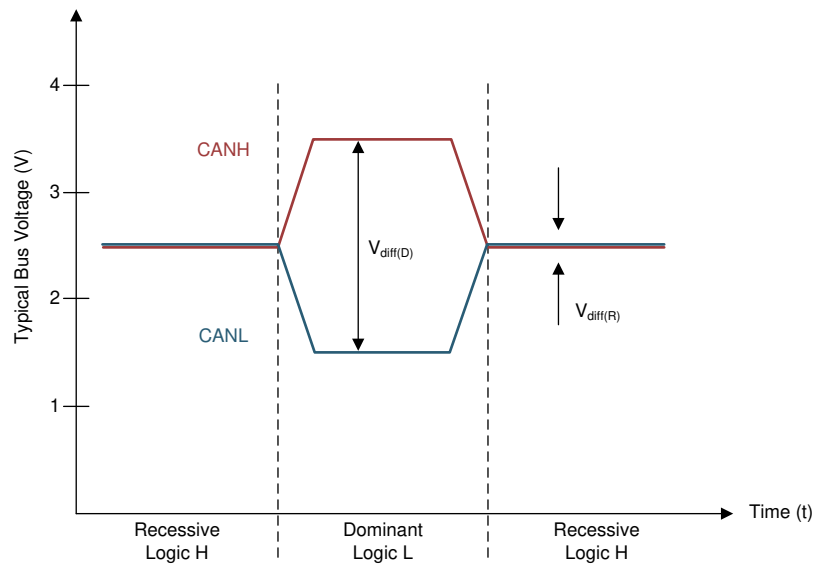
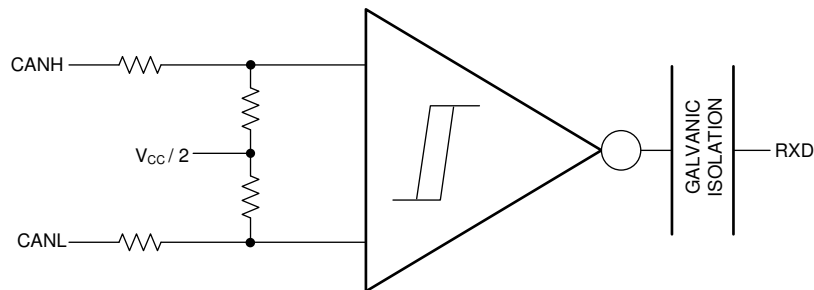

图 25. Bus States (Physical Bit Representation)
图 26. Simplified Recessive Common Mode Bias and Receiver
The CAN bus has two states during operation: *dominant* and *recessive*. A dominant bus state, equivalent to logic low, is when the bus is driven differentially by a driver. A recessive bus state is when the bus is biased to a common mode of $V_{\text{CC}} / 2$ through the high-resistance internal input resistors of the receiver, equivalent to a logic high. The host microprocessor of the CAN node uses the TXD pin to drive the bus and receives data from the bus on the RXD pin. See Figure 25 and Figure 26.
- (1) H = high level, L = low level, Z = common mode (recessive) bias to $V_{CC} / 2$. See 图 25 and 图 26 for bus state and common mode bias information.